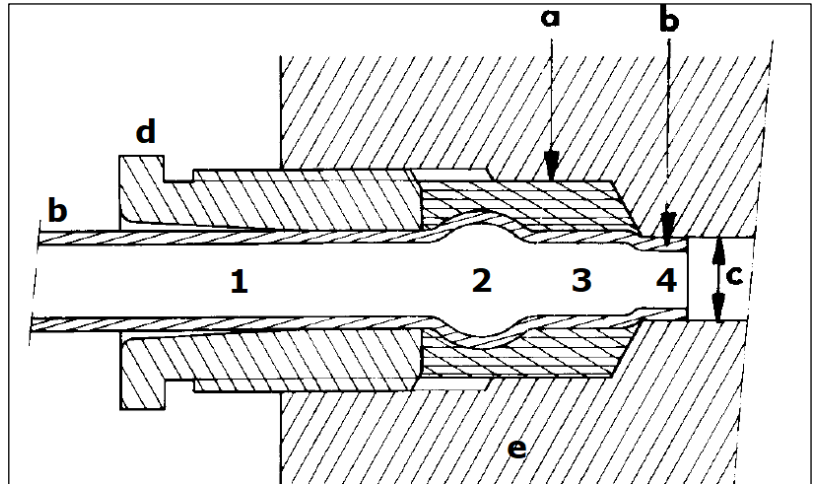
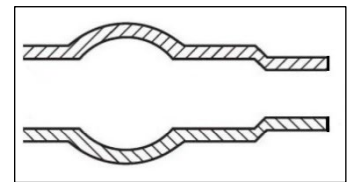
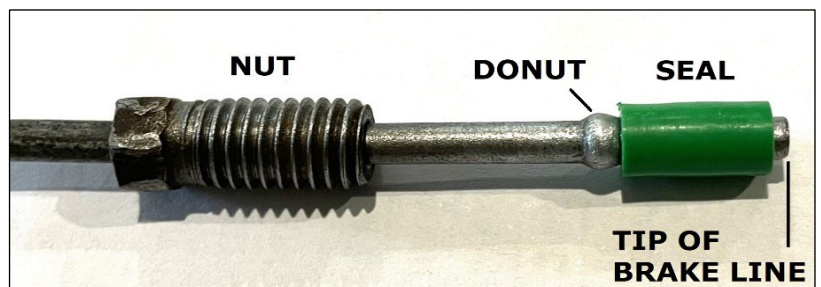
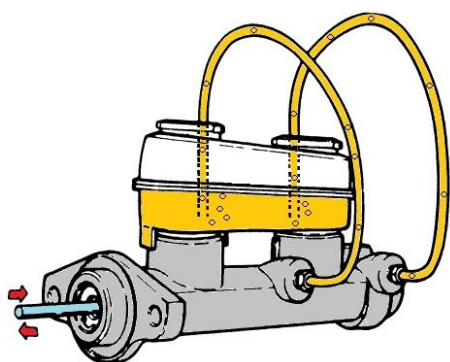

Fig. 2-6
Fig. 2-7
Fig. 2-8
Fig. 2-16 Bench bleeding arrangement
Fig. 2-6 shows the rubber brake line seal 'a', the metal brake line 'b', the fluid opening 'c', the nut 'd' and the fixture 'e'. The brake line diameters at 1 and 3 are identical. The tip of the brake line at 4 is slightly smaller in diameter than at 3, and the brake line shoulder, situated between the diameters '3' and '4', rests against the fixture at the entrance to the opening 'c'. The expanded section at 2 is known as a 'donut' and pushes the seal 'a' against the fixture 'e'. Fig. 2-7 is an enlargement of the end section of the brake line shown in Fig. 2-6. Fig. 2-8 shows a brake line end with a seal fitted, ready to be inserted.
Fig. 2-7 is an enlargement of the end section of the brake line shown in Fig. 2-6. Fig. 2-8 shows a brake line end with a seal fitted, ready to be inserted.
- Fit the seal onto the end of the brake line to a position where about 1mm of the tip of the brake line is exposed as shown in Fig. 2-8.
- Gently insert the brake line and seal into the fixture, ensuring the tip 'b' enters the opening 'c'. You may feel the tip drop into the opening as you slightly move the brake line sideways while pushing it in. Continue gently pushing the brake line in by hand to where it will not enter any further. At this point, the brake line shoulder between diameters 3 and 4 should be contacting the entrance to opening 'c', as depicted in Fig. 2-6, and the seal is positioned correctly.
d. Construct the arrangement portrayed in Fig. 2-16, adapting as necessary. The writer used the cut-off end sections and nuts from two old brake line sections (cut to about 75mm in length, per Fig. 2-8) to connect to the fluid outlet ports.
- g. Using the wooden dowel, **slowly** push and **slowly** release the piston inside the open end of the master cylinder (the "pushing" end). In Fig. 2-16, the pushing end is on the left, with the wooden dowel is coloured blue. Ensure the dowel is gently pushed in until slight resistance is felt at the end of its travel. Don't push it any further than that. You will observe brake fluid and air being expelled from the master cylinder fluid outlet ports and back into the reservoir through the clear tubes.